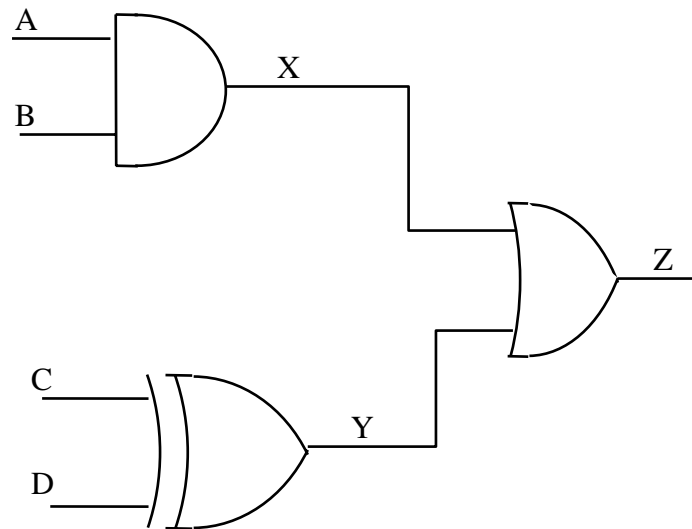

Figure Q3(b)
- (b) With reference to the circuit shown in Figure Q3(b), calculate the power consuming transition probability at the nodes X, Y and Z. Consider that the primary inputs A, B, C and D are independent and uniformly distributed.